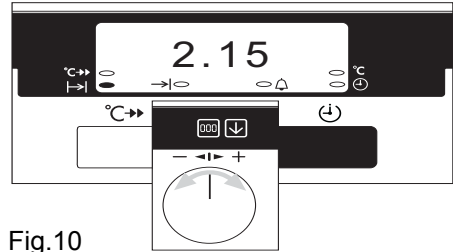

Fig.10
- iv) To set the length of cooking time, press the Time Selector button until the 'Cook Time' () indicator neon is illuminated. Turn the main oven increase/decrease selector () until the required length of cooking time is displayed, e.g. 2 hrs 15 mins as Fig. 10.